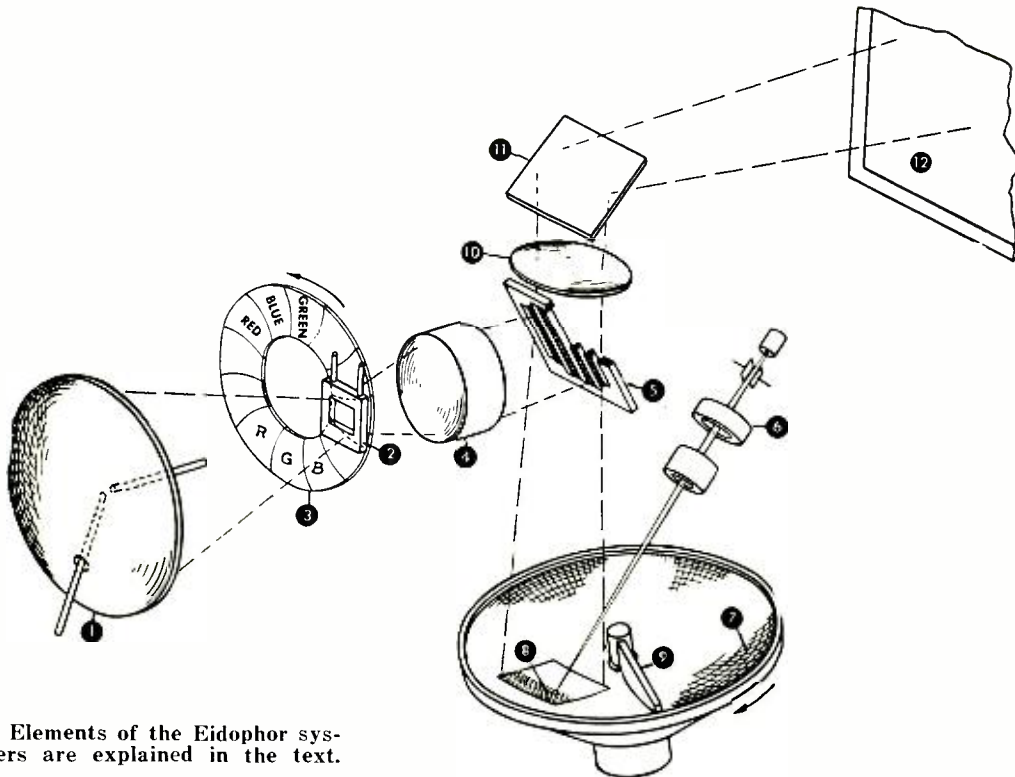

Fig. 2—The Elements of the Eidophor system. Numbers are explained in the text.
The electron beam, item 6 of Fig. 2, may now be examined in some detail. From the diagram it can be seen that both magnetic and electrostatic deflection (two coils and one pair of plates) are used. There are other peculiarities also. For example, an oxide cathode is impossible. The Eidophor liquid is bombarded, not only by a 20-kv electron beam, but also by the heat of an arc lamp (item 1 of the figure)! Despite the remarkable chemical achievement of an *almost* nonvolatile liquid, evaporation takes place; and despite the best efforts of the vacuum pump a low concentration of hydrocarbon vapor exists in the vacuum chamber. It has been found that oxide-coated cathodes are incompatible with this situation. A rod of pure tungsten is used instead.
Another peculiarity: A cathode, normally the negative terminal, is not necessarily negative in Fig. 2; but is negative only to its own anode, the Eidophor
Item 7 in Figure 2 is a spherically curved mirror, upon the surface of which the liquid is coated, and which rotates slowly in the direction shown by the arrow. Rotation of the mirror serves three purposes: It constantly brings under the electron gun a fresh, cooled surface, and thus minimizes the refrigeration load. It removes from the area of bombardment a surface that has accumulated a certain constant charge, and presents a fresh surface from which the residual charge has had time to leak off. It passes the oily surface under a knife-edge (item 9) just before rotating it into the scanning area, thereby mechanically smoothing away any ripple or deformation that may have remained.